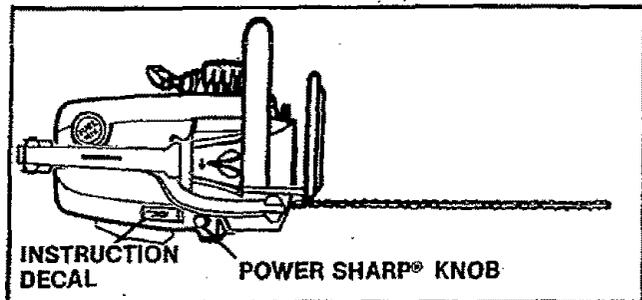

Figure 16
5. Press the Power Sharp® Knob down until you feel the sharpening stone lightly contacting the chain. Figure 16.